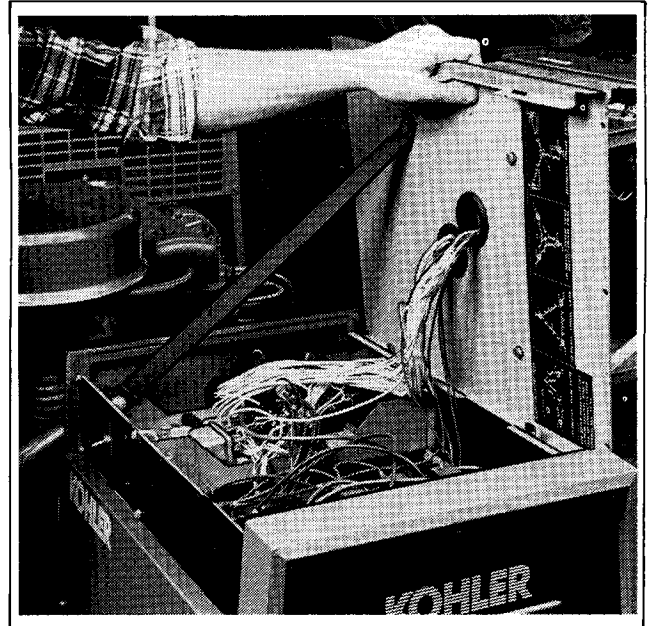

Figure 4-2. Access Cover/Controller
2. Remove capscrews and tilt back enclosure access cover/controller (Figure 4-2).